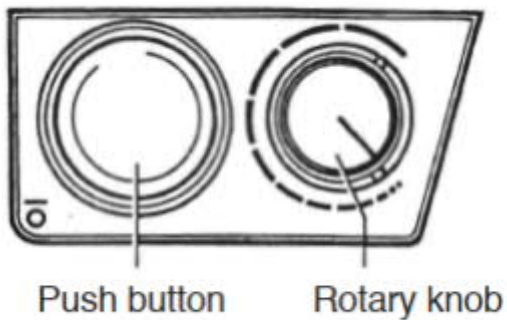

Fig. 3
- Plug the Blower into the mains and press the pushbutton with the thumb (figs. 3 and 4).